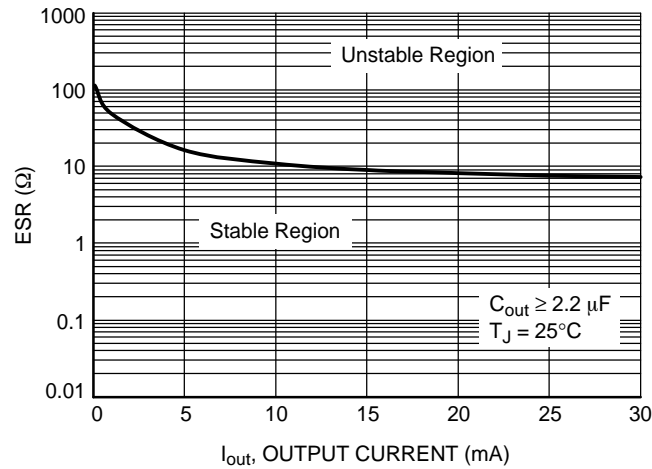
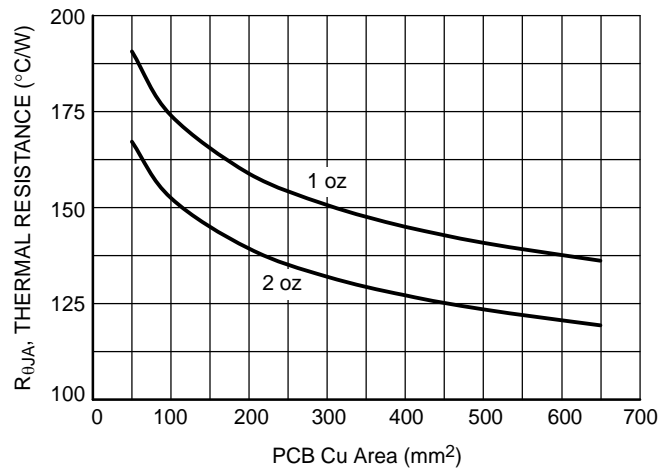

Figure 3. Output Stability with Output Capacitor ESR
Figure 18.  $R_{\theta JA}$  vs. PCB Cu Area
The NCV4296-2C low dropout regulator is self-protected with internal thermal shutdown and internal current limit. Typical characteristics are shown in Figure 3 to Figure 18.
The NCV4296-2C is a stable component and does not require a minimum Equivalent Series Resistance (ESR) for the output capacitor. Stability region of ESR vs. Output Current is shown in Figures 3 and 11. The minimum output decoupling value is 2.2 µF and can be augmented to fulfill stringent load transient requirements. The regulator works with ceramic chip capacitors as well as tantalum devices. Larger values improve noise rejection and load transient response.
Since TJ is not recommended to exceed 150°C, then the NCV4296-2C soldered on 645 mm2, 1 oz copper area, FR4 can dissipate up to 0.92 W when the ambient temperature (TA) is 25°C. See Figure 18 for RthJA versus PCB area. The power dissipated by the NCV4296-2C can be calculated from the following equations: